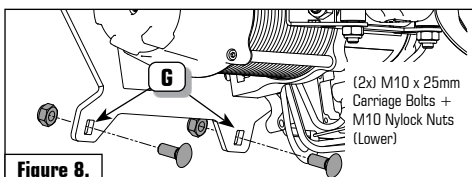

Figure 8.
8. Install (2x) M10 x 25mm Carriage Head Bolts and (2x) M10 Nylock Nuts from the hardware kit into locations [G] as shown in Figure 8. Note fastener